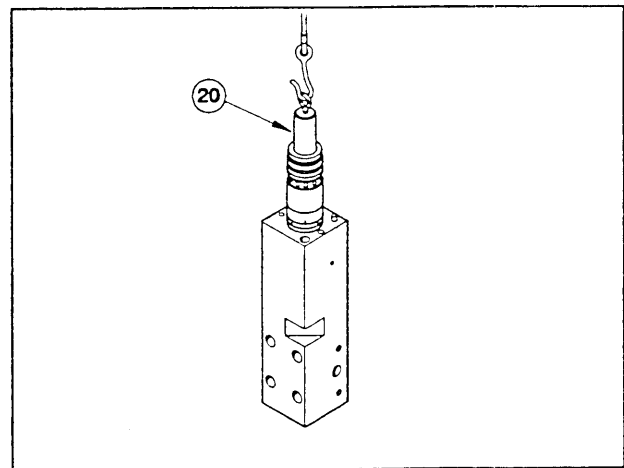

Figure 2.
5. If the seal carrier remains on the piston sleeve (23) after removal of the main body, lift it off of the piston. Remove and discard the o-rings and seals (26, 27, & 30).
6. Install a 1/2 - 13 UNC lifting eye into the top of the piston and pull the piston (20) out of the piston sleeve. See figure 2.